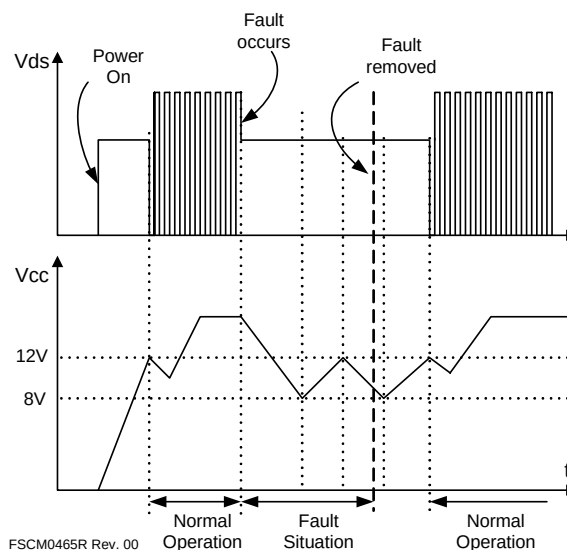

Figure 20. Auto Restart Operation
3. Protection Circuit: The FSCM0465R has several self-protective functions, such as overload protection (OLP), over-voltage protection (OVP) and thermal shutdown (TSD). Because these protection circuits are fully integrated into the IC without external components, the reliability is improved without increasing cost. Once the fault condition occurs, switching is terminated and the SenseFET remains off. This causes V_{CC} to fall. When V_{CC} reaches the UVLO stop voltage of 8V, the current consumed by the FSCM0465R decreases to the startup current (typically 20 μ A) and the current supplied from the DC link charges the external capacitor (C_d) connected to the V_{CC} pin. When V_{CC} reaches the start voltage of 12V, the FSCM0465R resumes normal operation. In this manner, the auto-restart can alternately enable and disable the switching of the power SenseFET until the fault condition is eliminated (see Figure 20).